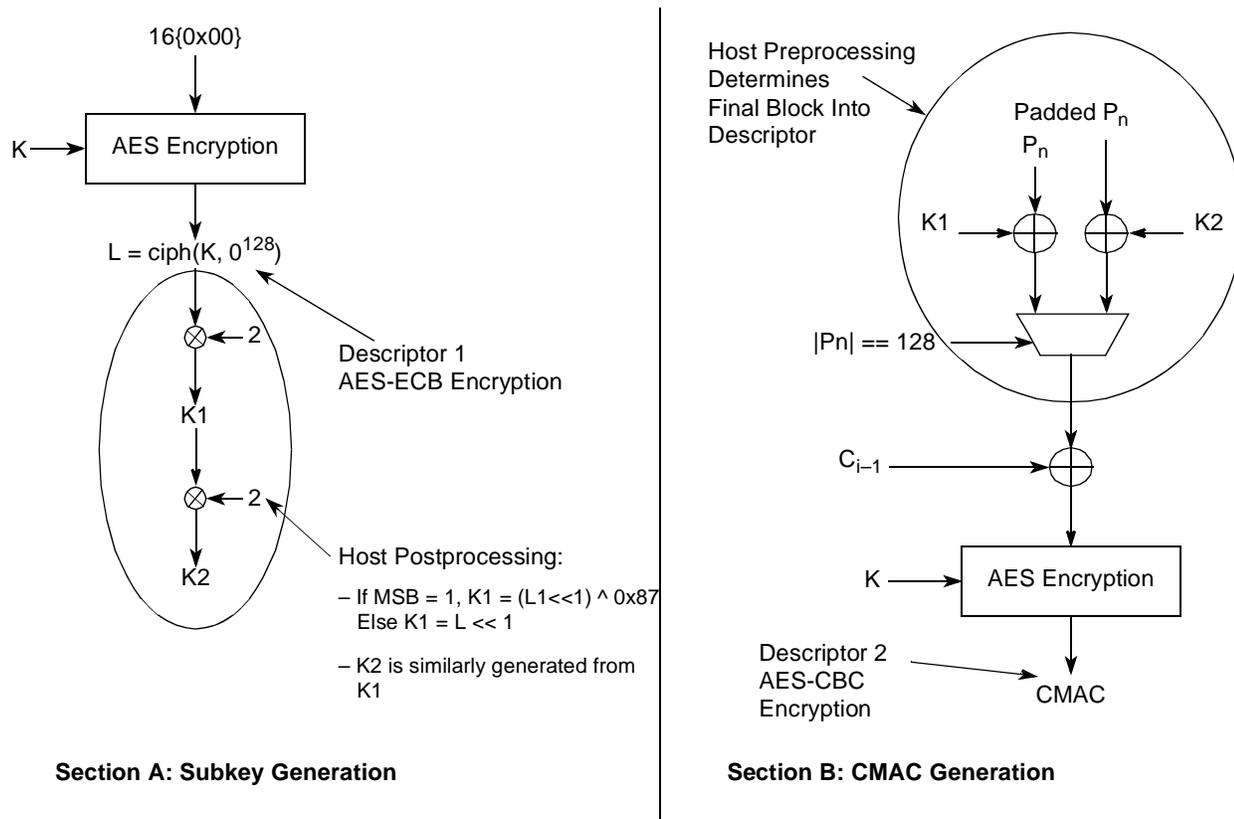

Figure 1. SEC-Accelerated CMAC
2. With this key, encrypt 16 bytes of zeros, shown in Section A of Figure 1 as 16{0x00}, with the SEC in AES-ECB mode.
5. The CMAC authentication value is generated using AES-CBC encryption as shown in Section B of Figure 1.